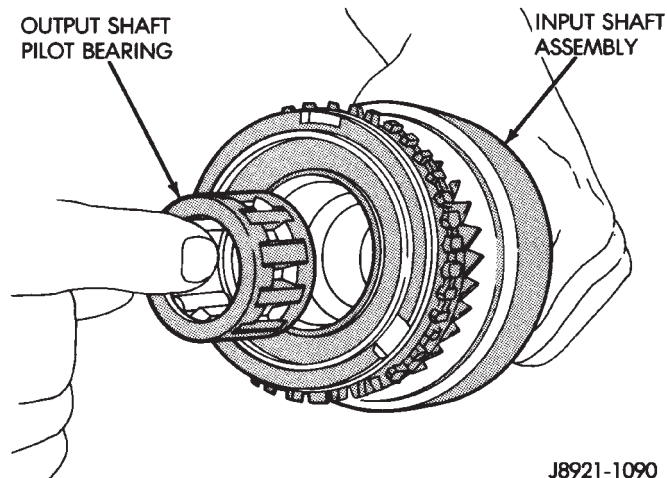

Fig. 60 Removing Input Shaft Pilot Bearing
(8) Remove output shaft pilot bearing from input shaft (Fig. 60).